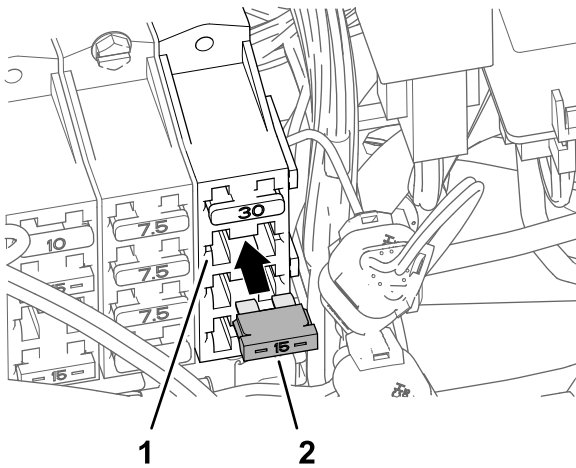

Figure 237
6. Insert the fuse (15 A) into fuse-socket 2 of fuse block 3 until the fuse is fully seated (Figure 237).